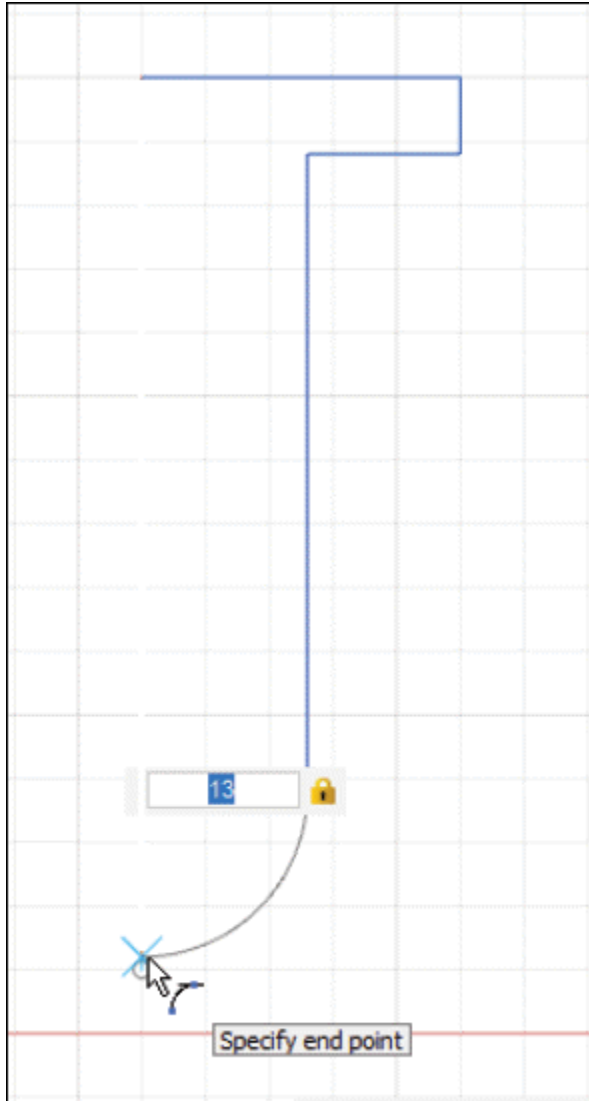

Figure-113. Arc creation
- Specify the dimension value **13** in the dimension box and press **ENTER** to complete the arc; refer to Figure-113.